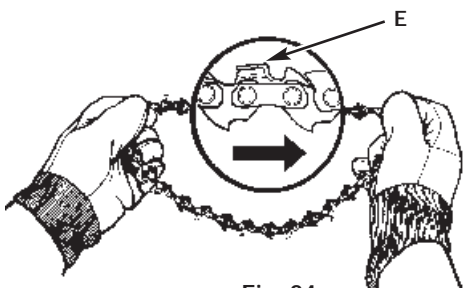

Fig. 24
1. Spread chain out in a loop with cutting edges (E) pointing CLOCKWISE around loop (Fig. 24).
1. The Chain Brake® is DISENGAGED (chain can move) when BRAKE LEVER IS PULLED BACK AND LOCKED (A, Fig. 24).